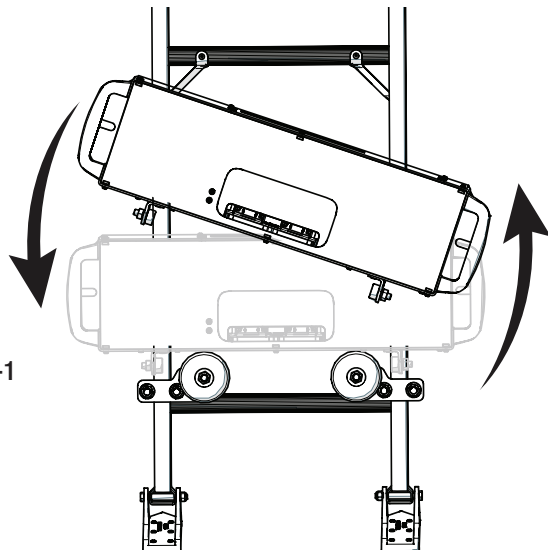

Fig. 11-1
- While standing in front of the tracks - hold the power box just above the track sides. Tilt the power box clockwise with the **left side** of the power box upward toward the top of the tracks. As shown right Fig. 11-1.